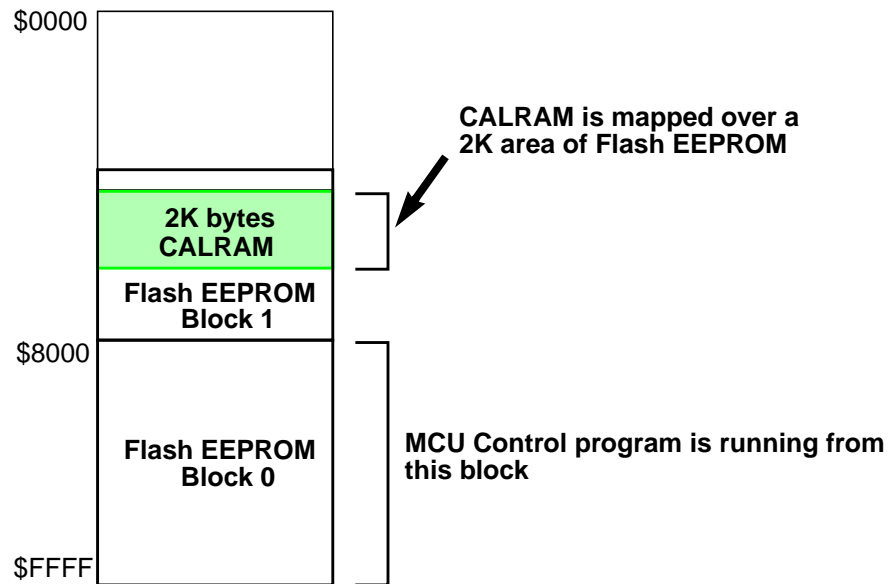

Figure 34 Map CALRAM over Flash EEPROM
2. Initialize the CRAM[15:11] bits and set the CRAMON bit in the register INITCRM to overlap the 2K byte CALRAM array with the Flash EEPROM. Figure 34 shows an example of how to map the CALRAM over the Flash EEPROM.